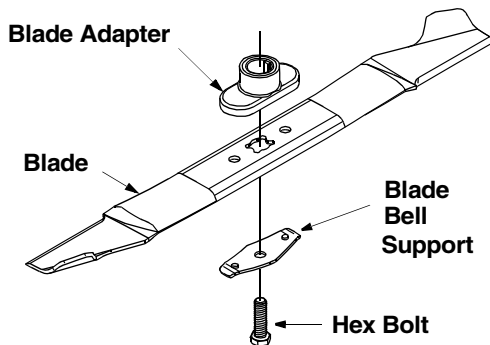

Figure 13
- Remove the bolt and blade support or bell washer which hold the blade and adapter to the engine crankshaft. See Figure 13. Remove the blade and adapter from the crankshaft.
- Install the blade adapter on the crankshaft with the “star” away from the engine. Refer to Figure 13. Place the blade with the side marked bottom (or with part number) facing away from the adapter.